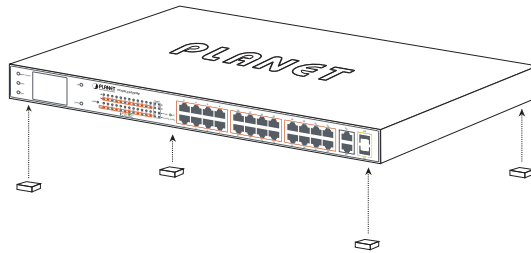

Figure 3-1: Attaching the Rubber Feet to the 802.3at PoE+ Switch
Step 1: Attach the rubber feet to the recessed areas on the bottom of the 802.3at PoE+ Ethernet Switch, as shown in Figure 3-1.